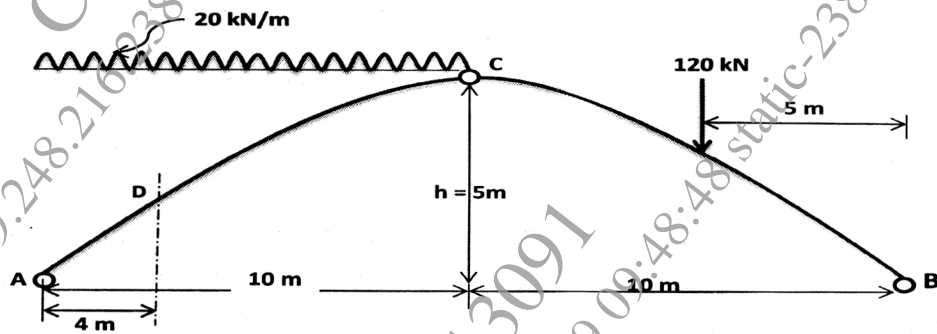

Fig. 9
5. (a) A three hinged parabolic arch of span 20 m and rise of 5 m. It carries a uniformly distributed load of intensity 20 kN/m over the left half of span and a point load of 120 kN at 5 m from the right end as shown in Fig. 9. Determine BM, Normal thrust and Radial shear at a section D, 4 m from the left support. [7]